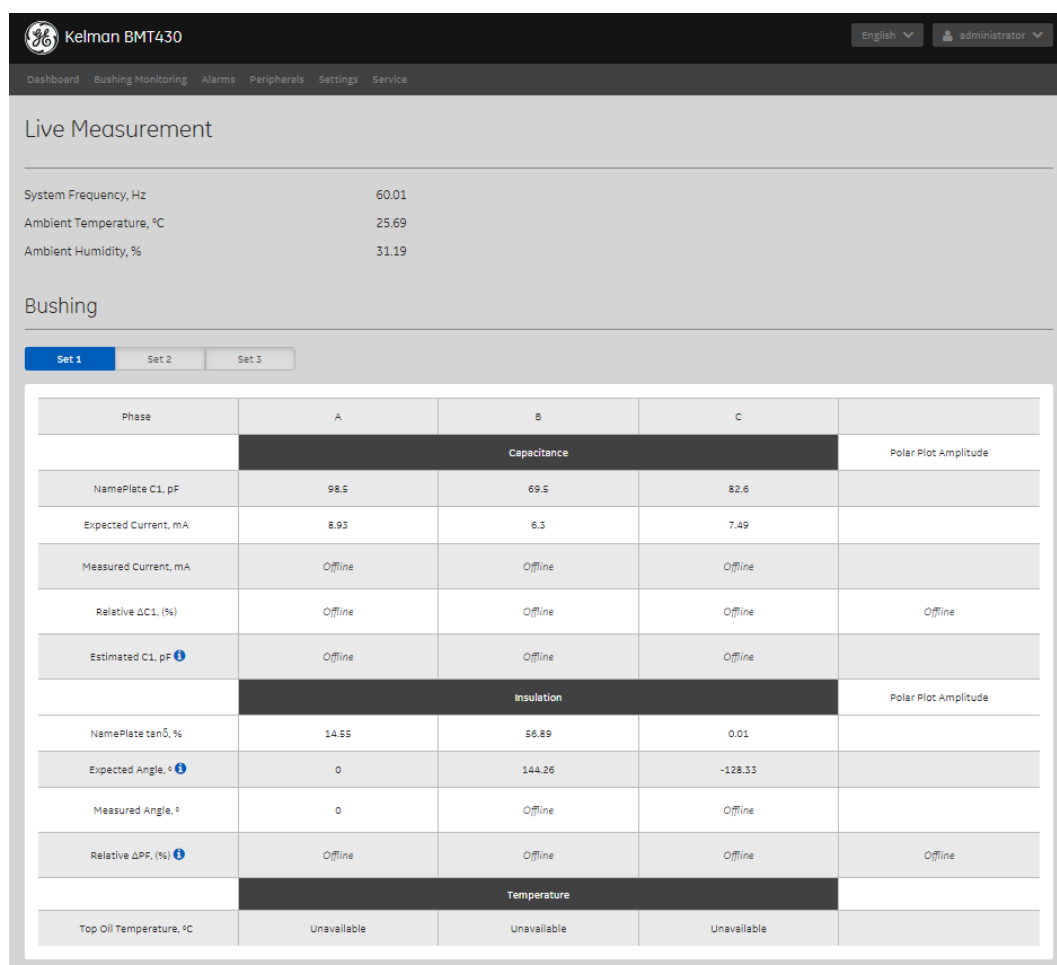

Figure 13-6: Bushing Monitoring > Live Measurement – Bushing: Set 1, Set 2 & Set 3
- Select **Bushing Monitoring > Live Measurement** as shown in Figure 13-6 and ensure that the 'Expected Current mA' for each phase is within 10% of the measured current mA reading.